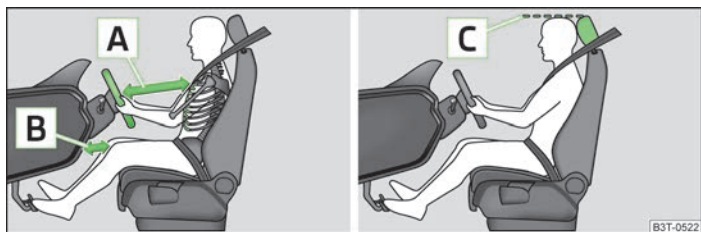

Fig. 116 The correct distance of the driver from the steering wheel and dash panel/The correct head restraint adjustment
- › Position the steering wheel so that there is a gap of at least 25 cm between the steering wheel and the chest **[A]** » Fig. 116, and that the distance between the legs and the dash panel at the height of the knee airbag is at least 10 cm **[B]**.
- › Adjust the head restraint so that the top edge of the head restraint is at the same level as the upper part of your head **[C]** » Fig. 116 on page 130.
- › Adjust the head restraint so that the top edge of the head restraint is at the same level as the upper part of the head **[C]** » Fig. 116 on page 130.